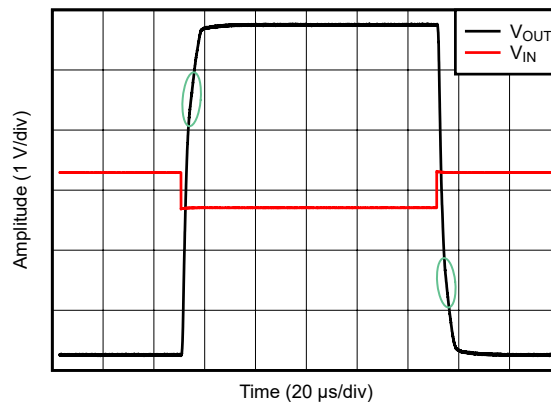

Figure 4-1. TLV9001 Overload Recovery
Use any large signal chart that has abrupt changes in rise and fall slopes, including charts called by another name, such as “Overload Recovery”. If a chart with these conditions can not be found, use the chart with the largest input signal. When looking at the transient response, select the slowest slew rate section that is more than 100 mV of V_{ID} . Taking into account the noise gain (NG) of the circuit, the slowest slew rate section for a NG of 11 is 1.1 V and for a NG of 1 the V_{ID} is 100 mV. As shown in Figure 4-1, the green ovals are the slowest slew rate with full V_{ID} . In both waveforms there is initially a faster slew rate. This initial increased slew rate can be caused by slew boost or internal parasitic capacitive feed-through. Typically, small rises come from capacitive feed-through and large rise come from slew boost. For the TLV9001 waveform, the selected area (SR) is 0.6 V/ μ s, which is less than half of the data sheet slew rate of 2 V/ μ s. Based on this information, slew boost is present in the TLV9001. For the LMV831 waveform, the selected area (SR) is 2.2 V/ μ s rising and 1.8 V/ μ s falling SR, which is close to the data sheet slew rate of 2 V/ μ s; therefore, so no boost is expected.